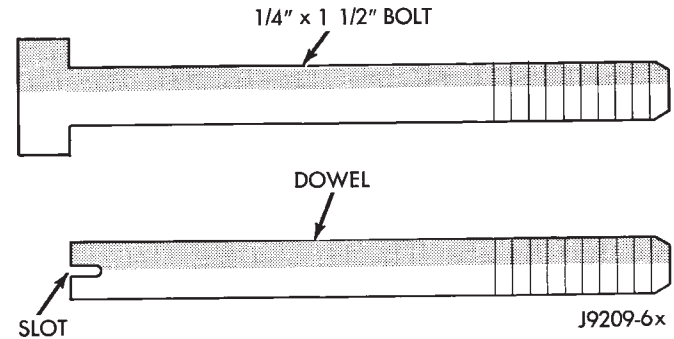

Fig. 48 Fabrication of Alignment Dowels
- (1) Clean the block and pan gasket surfaces.
- (2) Fabricate 4 alignment dowels from 1 1/2 x 1/4 inch bolts. Cut the head off the bolts and cut a slot into the top of the dowel. This will allow easier installation and removal with a screwdriver (Fig. 48).